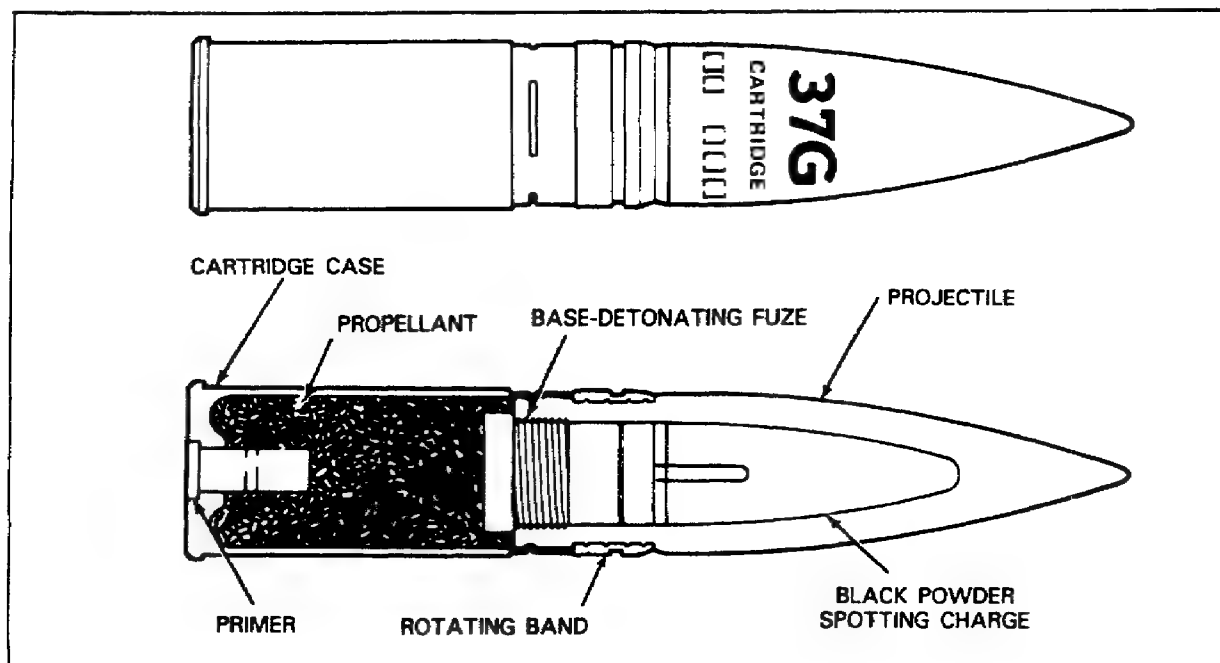

Figure 9. Practice Artillery Ammunition.
**Practice Ammunition.** Practice ammunition is used for training in firing and target practice. These rounds simulate service rounds in weight, configuration, and ballistics. Most practice rounds contain a small explosive spotting charge. See Figure 9.